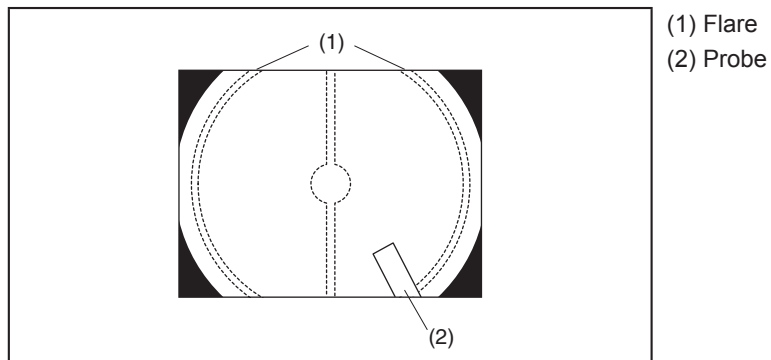

Figure 3.12
- 11) When activating the laser at high power (about 100W for Yag Laser) and/or if the endoscope tip comes to within 10mm of the irradiated tissue, flare may appear at the corners of the image as shown below in Figure 3.12.